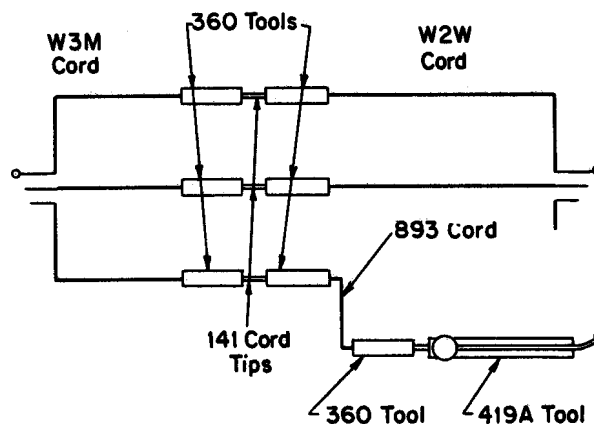

Fig. 1
**2.10** Test cord assembly, shown in Fig. 1, consisting of the following: one W3M cord, 6 feet long, equipped with a 310 plug and one each of 360A, 360B, and 360C tools (3W4A cord); a W2W cord, 6 feet long, equipped with a 310 plug and 360B and 360C tools (2W17A cord); 893 cord, 6 feet long, with 360A tool at each end (1W13B cord); 419A tool; and three 141 cord tips (for use where test jack is not located on line finder).
13d If test jack is not located on line finder — Insert plug of 6-foot W3M cord, connected as shown in Fig. 1, into test set LF jack.